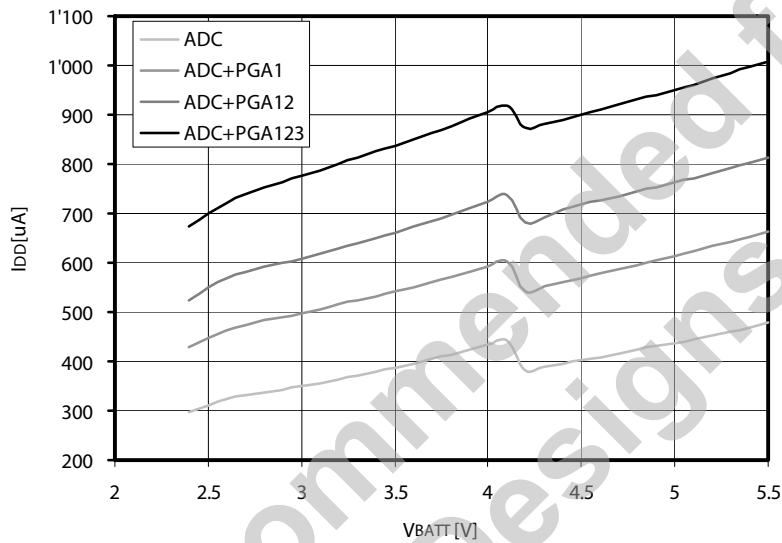

Figure 51. Current Consumption vs. Supply Voltage and PGAs
**Figure 51** plots the variation of current consumption with supply voltage  $V_{BATT}$ , as well as the distribution between the 3 PGA stages and the ADC (see **Table 40, page 60**). The Charge Pump is forced ON for  $V_{BATT} < 4.2V$  and forced OFF for  $V_{BATT} > 4.2V$ .